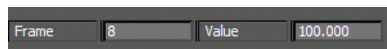

FIGURE 5.18 Enter a value of 100.
5. Enter 100 (for 100 percent scale) in the right type-in box, for the scale in X, Y, and Z for the ball at frame 8, as shown in Figure 5.18.